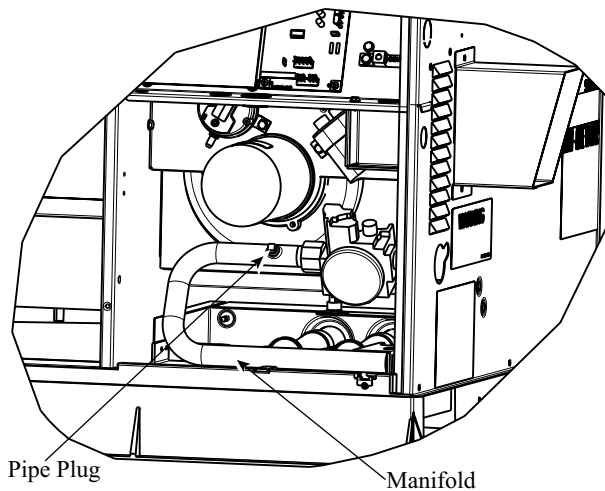

Fig. 10 – Burner Assembly
2. Remove pipe plug on manifold (See Fig. 10) and connect manometer. Turn on gas supply to unit.
4. Turn off gas supply to unit. Remove manometer from pressure tap and replace pipe plug on gas valve. (See Fig. 10.) Turn on gas to unit and check for leaks.